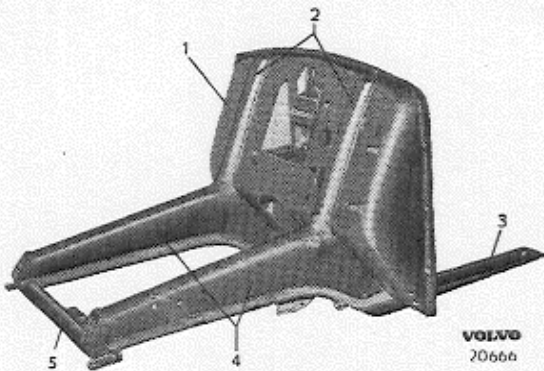

Fig. 5. Bulkhead
The bulkhead (1, Fig. 5) forms the front transverse wall of the body. The bottom of this forms the toeplate and the sides form the front section of the cowl. Two side members (4) extend forwards from the front side of the bulkhead and are connected through a tubular cross member (5). To the rear, these side members divide and form reinforcing members (2 and 3). These are